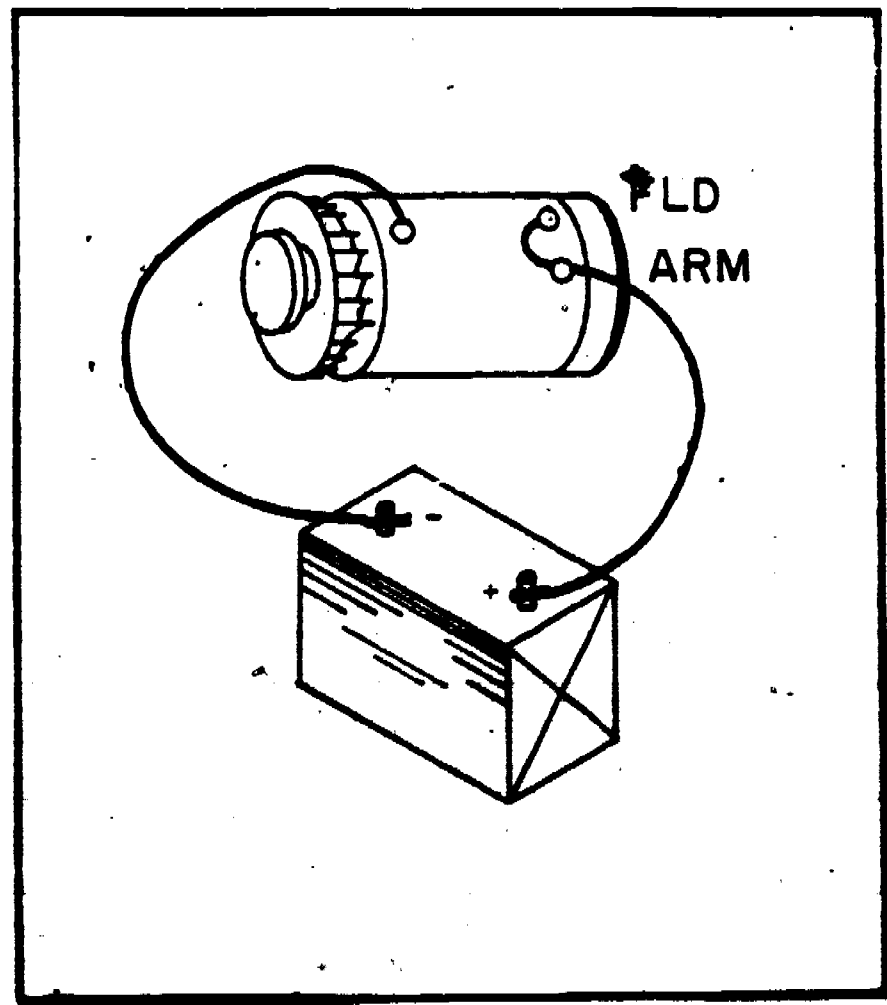

Figure 21. Connections for Running Generator ("B" Circuit) as a Motor.
b. Make the correct connections for motoring test on a "B" circuit generator, figure 21.